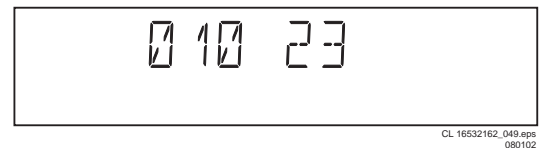

Figure 5-32
The 2-digit number (23) on the right of figure 5-32 indicates the number of times the loop test has been performed.